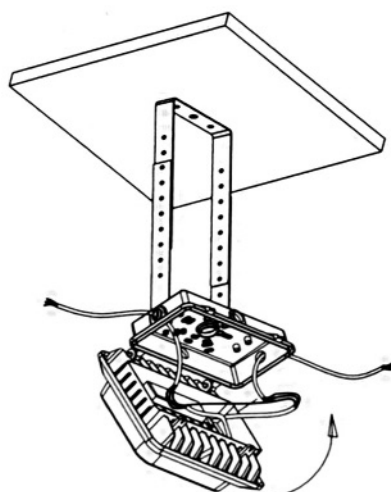

Figure 3-10
10. Turn the radiator up then cover the driver box, Figure 3-10